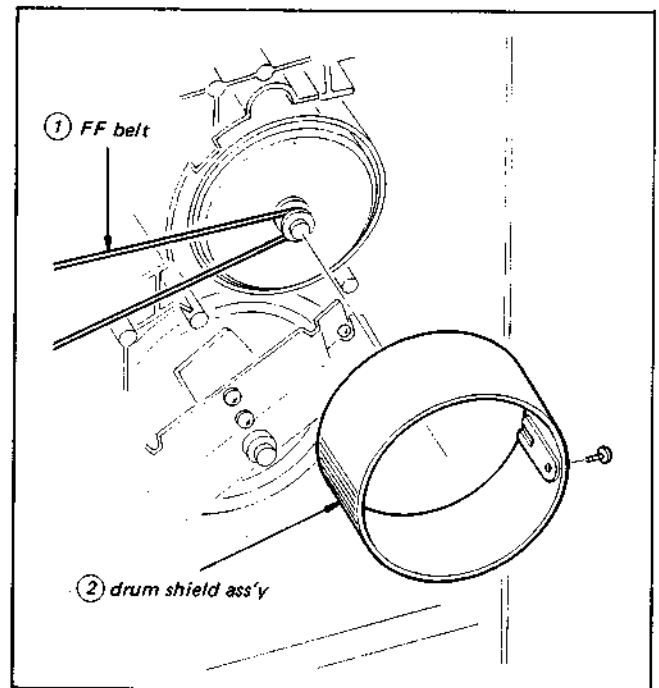

Fig. 3-3. Replacement of drum assembly (1)
2. Remove FF belt (1) and drum shield (2) shown in Fig. 3-3.